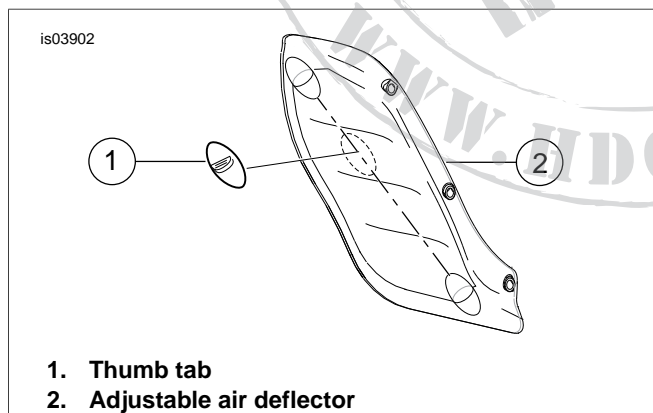

Figure 1. Install Thumb Tab (Left Side Shown)
For easiest operation, mount the thumb tab in line with the hinges of the deflector wing, in the molded depression second from the top (see Figure 1).
2. Obtain the alcohol wipe (5) from the kit. Open the packet, and use the wipe to thoroughly clean the thumb tab mounting area of any dirt or grease.
3. Peel the liner from the adhesive backing of the thumb tab. Carefully position the tab to the air deflector, and press firmly into the position indicated in Figure 1. Hold the tab in position with steady pressure for five minutes to ensure proper adhesion.